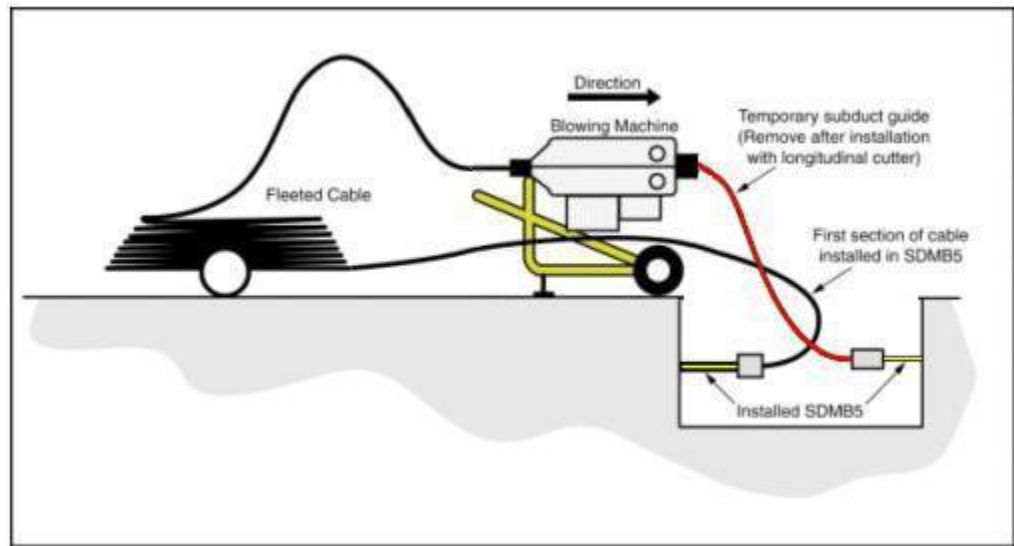

Figure 5 Schematic diagram showing correct layout of plant and equipment to install section of cable for mid point installation
Note: A 15metre loop of cable is recommended between the fleeter trailer and the box, to allow the trailer to be moved back from the box as shown in Figure 5. Failure to do this may make the configuration shown in Figure 5 impossible. The 15 metre loop can then be used as a maintenance coil at that box. It is also recommended that the fleeter trailer is sited in a level position on firm ground, as this will ensure that the fleeting arm operates smoothly.
7. Re-position Cable Blowing Machine and plant in preparation for installing second section of cable (see Figure 5). Ensure that neither the SDMB5 nor cable has been fed under any hoses or equipment.